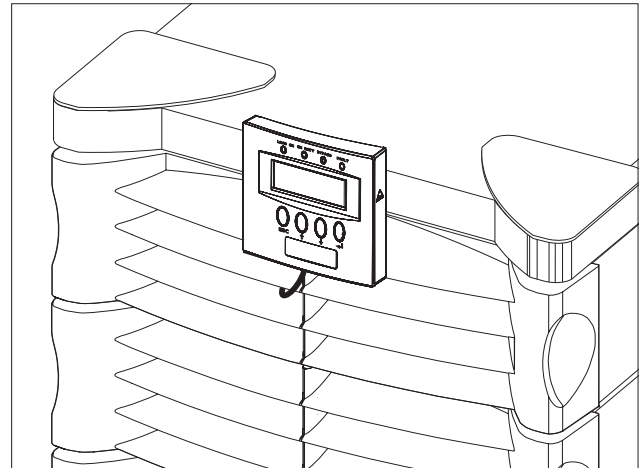

Fig 5-12 Install PowerView Onto Frame
5. Position the PowerView over the mounting post on the front of the frame, and push straight down. The PowerView snaps into place. See figure 5-12.